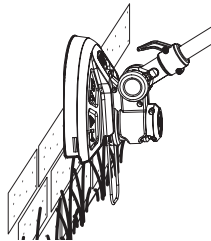

Fig. 19
1. Make sure that the knife protector (11d) is removed, the plant protector (12) is pulled out and the battery pack (16) is assembled before operation
2. Adjust the main handle (1) angle to 90° or 180° for edging (Fig. 19).